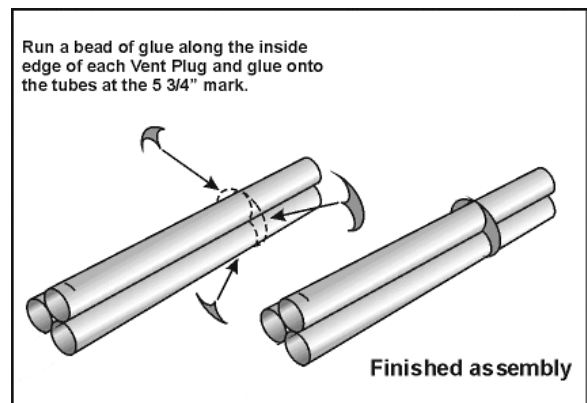

Figure 5
5. Locate the 3 **Vent Plugs** provided with this kit. One at a time, apply a bead of glue along the 2 inner curves of a Vent Plug and glue this to the Engine Tube assembly at the  $5\frac{3}{4}$ " mark, as shown in **Figure 5**. The 3 Vent Plugs should form a full circle around the assembly and be even (flush) with each other. When dry, apply a strong glue fillet on both sides of each Vent Plug.